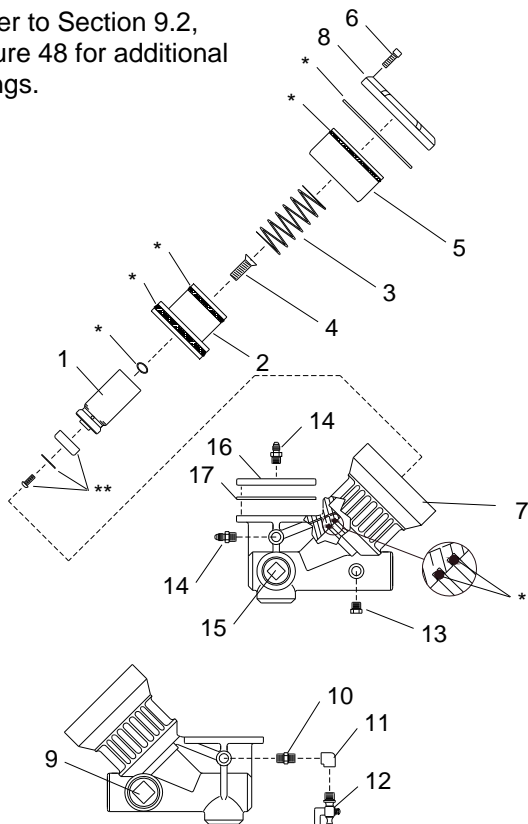

Figure 53
9.7 Millennium Inlet Valve, Figure 53